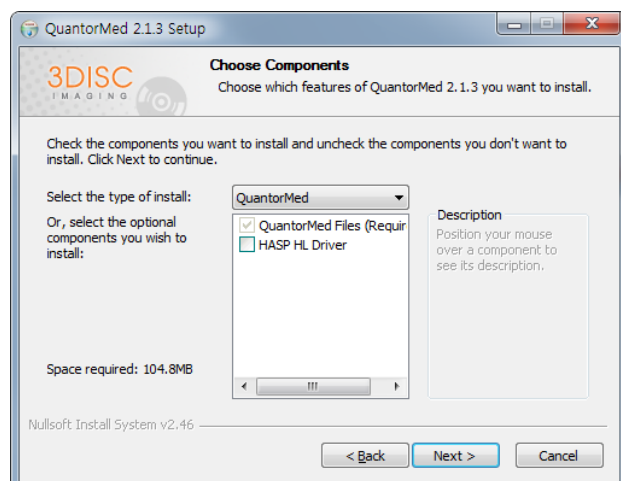

Figure 2.2 Components Dialog Box
- Choose all components and click the "Next" button as shown in Figure 2.2